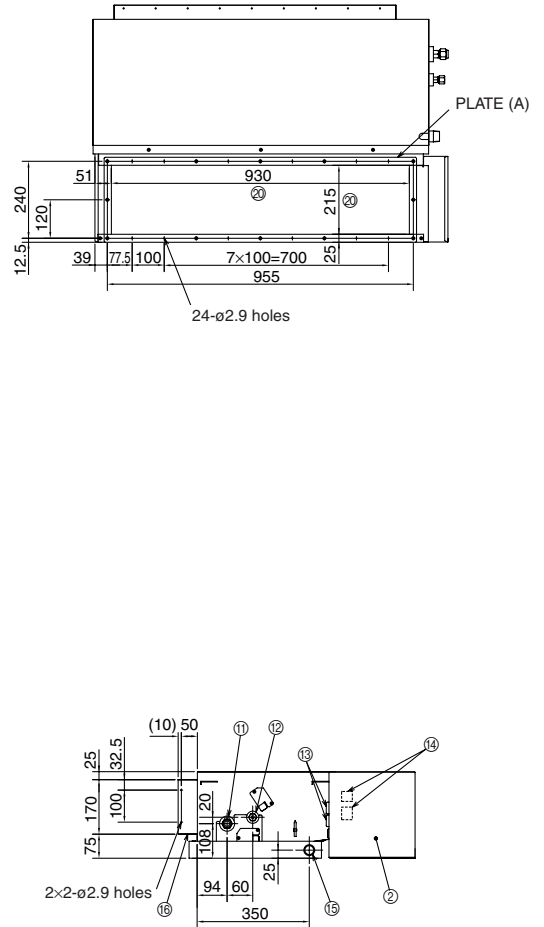

Fig. 3-1
3.1. Indoor unit (Fig. 3-1)
- ① Air inlet (rear side) *Select the either back side or bottom side
- ② Electrical parts box
- ③ Suspension bolt pitch
- ④ Access door
- ⑤ Service space (It is necessary to maintain a working service area from the ceiling.)
- ⑥ Air inlet (bottom side) *Select the either back side or bottom side
- ⑦ Suspension bolt M10 or 3/8 (procure locally)
- ⑧ Air outlet duct flange
- ⑨ Air outlet
- ⑩ Refrigerant pipe (gas)